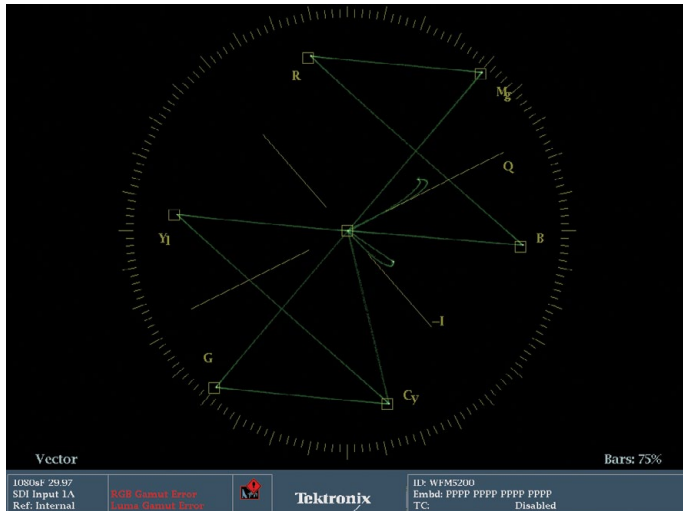

Figure 8. Color bar signal to the vector display.
Apply a color bar signal to the vector display with White, Yellow, Cyan, Green, Magenta, Red, Blue and Black bars. You can follow this pattern within the vector display (Figure 8) starting from the center trace the display to yellow vector (YL) then Cyan (CY) and follow on to Green (G), Magenta (MG), Red (R), Blue (B) and then back to the center of the display.